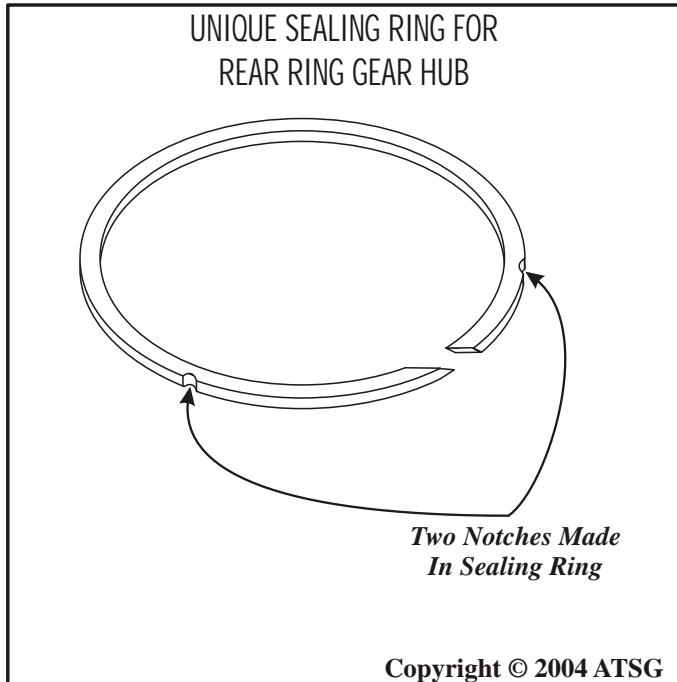

Figure 100
- Caution: This sealing ring is manufactured with two small notches in the outside diameter as shown in Figure 100, and must be installed in this location.***